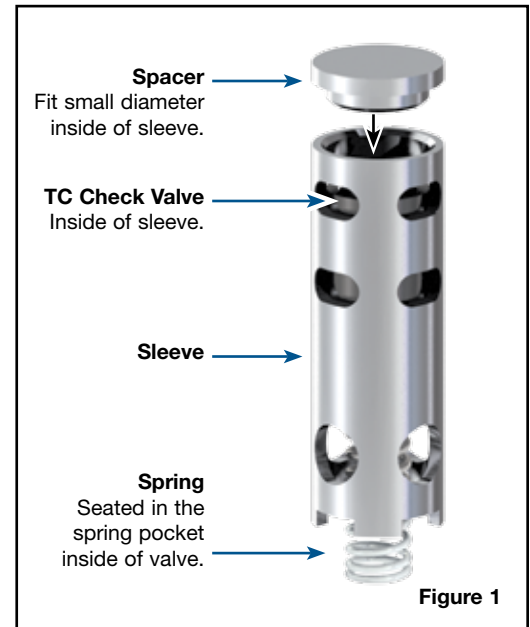

Figure 1
- f. Install Sonnax spacer into small diameter of sleeve (**Figure 1**).